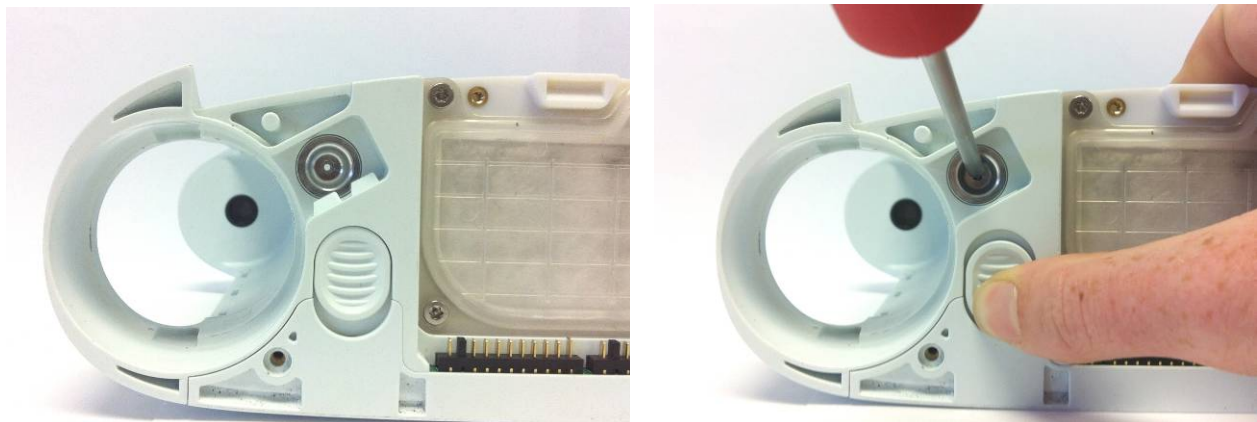

Figure 5: Push down on column latch while unscrewing receptacle
5. Using a T10 torx driver, unscrew the receptacle from the underside of the chassis while pressing down on the column latch to lower the column latch teeth (Figure 5). Remove the receptacle through the bottom of the device. The receptacle washer should remain in place on the other side of the chassis.
1. Feed the new receptacle and tubing assembly up through the washer, threading them in and tightening to 3 in-lbs while pressing down on the column latch to lower the column latch teeth (Figure 5). Using compressed air, blow out any debris from the tubing end of